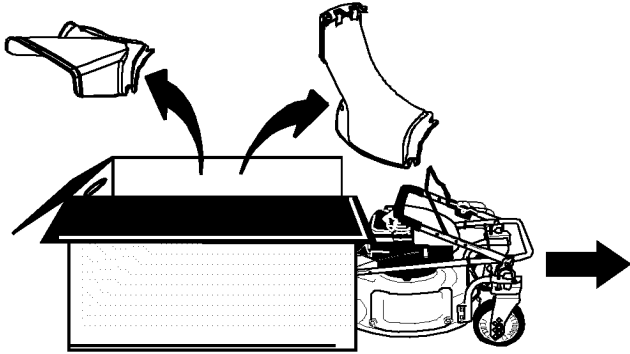

Figure 1
- Roll or slide unit out of carton. Check carton thoroughly for loose parts. See Figure 1.